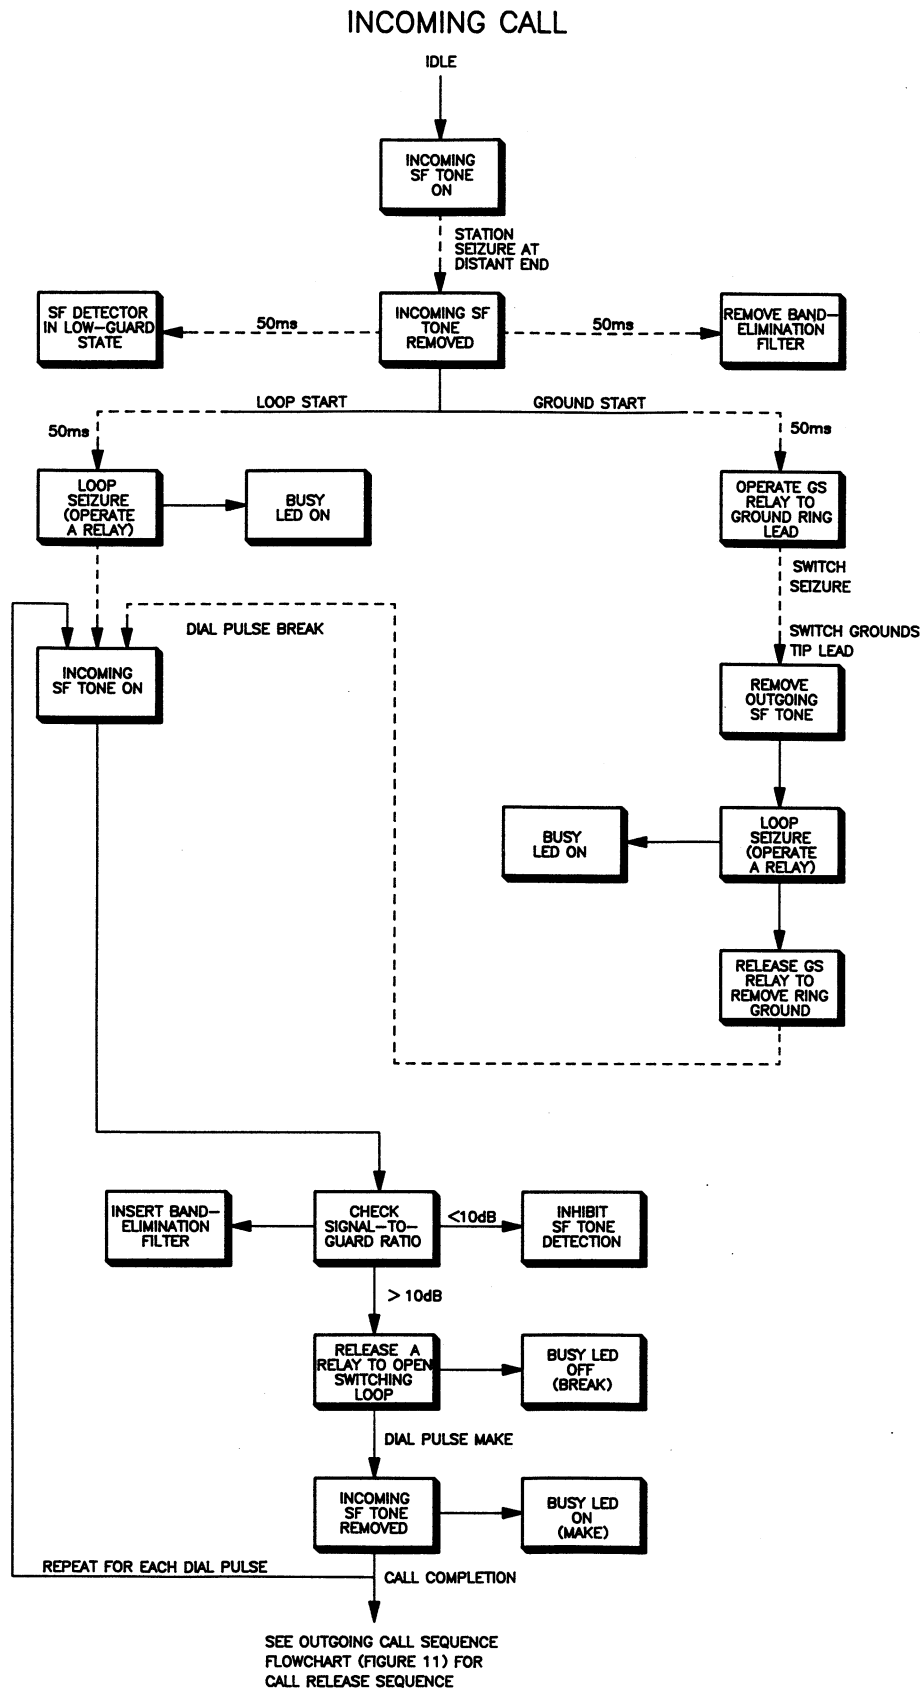

figure 10. Function sequence flowchart, incoming call
4.01 To provide the clearest possible understanding of the operation of the 6124/A 4Wire-to-2Wire SF-to-FXO Terminal Repeater module, function sequence flowcharts (figures 10 and 11) that illustrate operation of the module on incoming and outgoing calls are presented in lieu of a more conventional circuit description. Horizontal paths identify events occurring simultaneously, and vertical paths denote sequential events. Dotted lines indi-